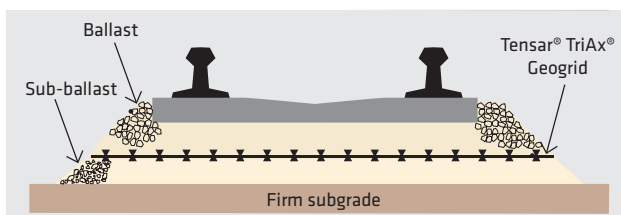

FIGURE 3b: Ballast stabilization leads to increased maintenance intervals.
- ▶ **Ballast Stabilization** – installed between the ballast and sub-ballast layers, TriAx Geogrids limit lateral particle migration and thereby minimize track settlement. This helps increase the period between maintenance cycles by three to five times (Figure 3b).